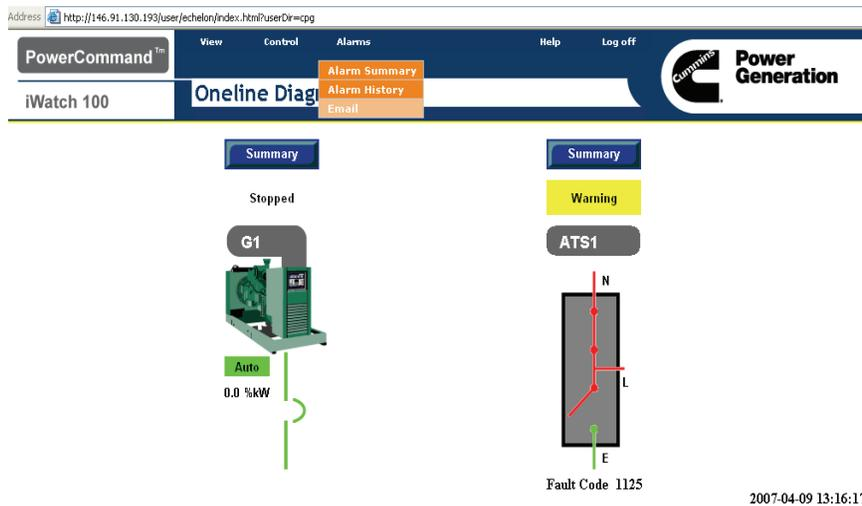

FIGURE 6-2. SELECTING E-MAIL FROM MAIN MENU
4. From the main menu, choose Alarms→Email (see Figure 6-2).